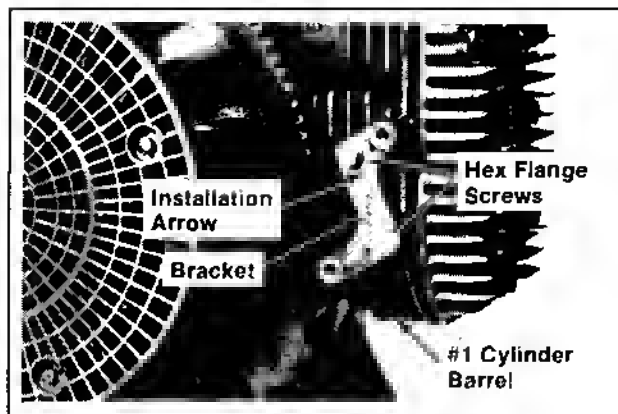

Figure 11-38. Installing Ignition Module Bracket.
1. Install the bracket and hex. flange screws to #1 cylinder barrel. Make sure the arrow on bracket is pointing to top of crankcase. Refer to Figure 11-38.